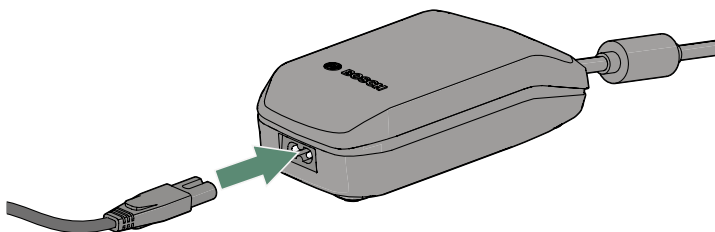

Figure 13 - Inserting the appliance plug into the charger.
1. Insert the appliance plug of the power cable into the charger **35** (Figure 13).